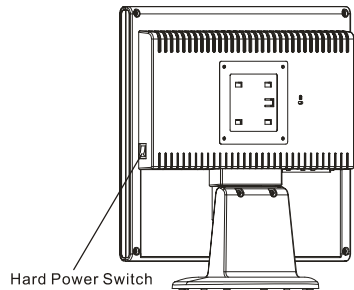

Figure 1-4
1. Turn on the LCD monitor's hard power switch, located on the back of the monitor (See Fig. 1-4)